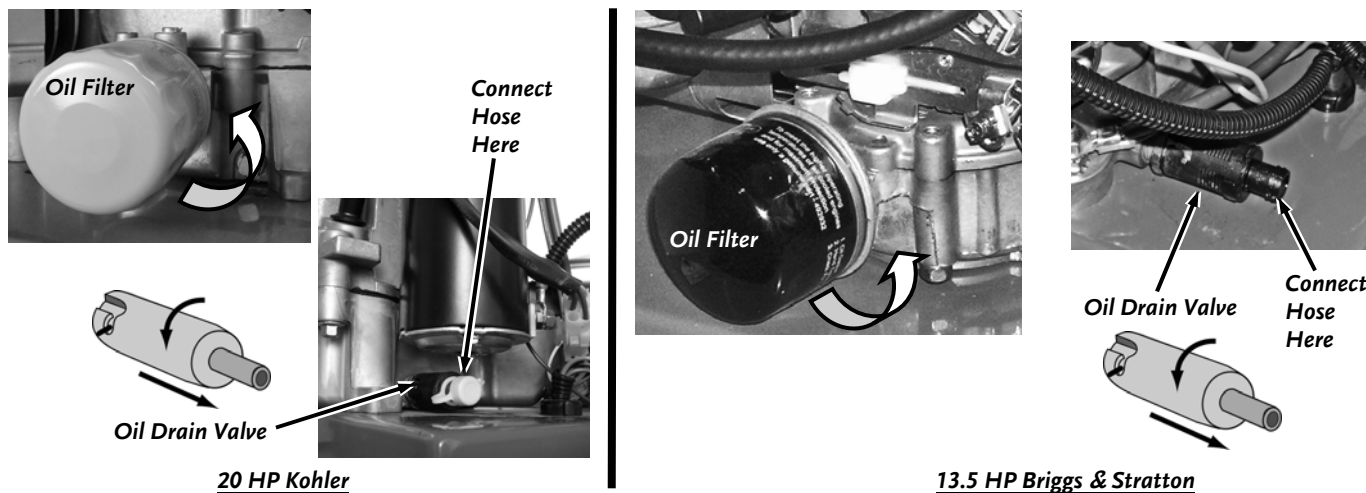

Figure 17
1. Attach the Plastic Hose (provided in product package) to the Quick Release Oil Drain Valve located on the side of the Engine (**Figure 17**). Turn the Valve counterclockwise and pull out to drain the oil into a suitable oil receptacle.